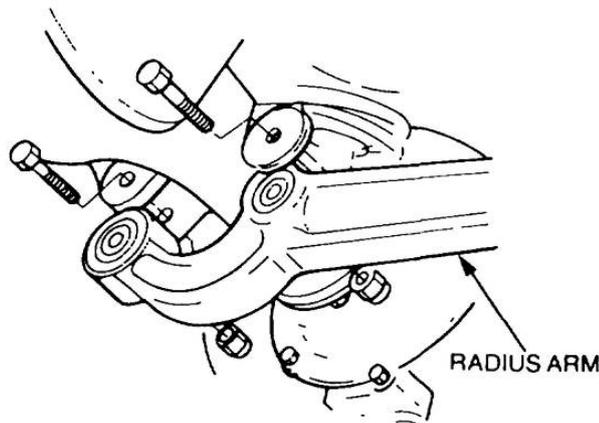

Figure 108 Removal of the Radius Arm
- h.** Remove the locknuts and bolts securing the radius arms to the axle case (Figure 108) and discard the locknuts. Lower the front end of the radius arms to clear the axle and withdraw each arm from the chassis brackets.